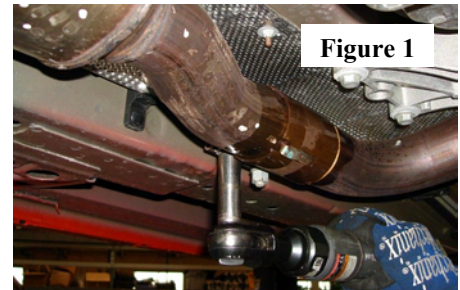
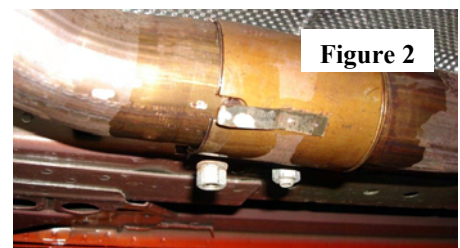

Figure 1
Figure 2
2. On each exhaust pipe behind the catalytic converter, unbolt the clamp (figure 1) using a 15mm socket. Unbend the metal tab (figure 2) on each pipe.